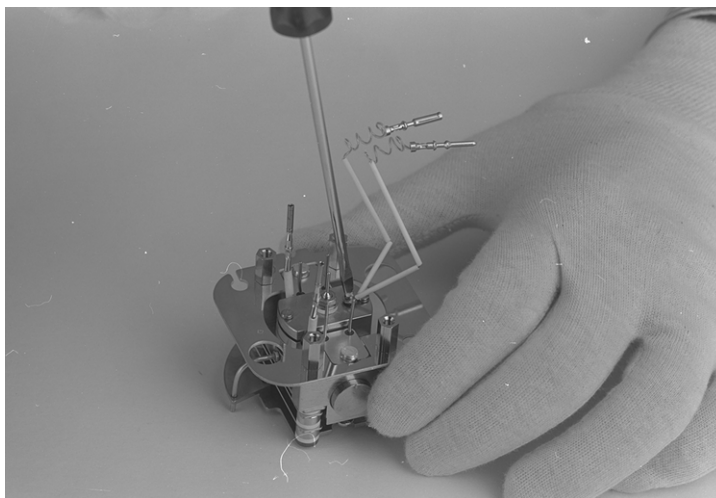

Figure 4-22. Removing the thermocouple
2. Remove the thermocouple fixing screw and then take out the old thermocouple (see Figure 4-22).